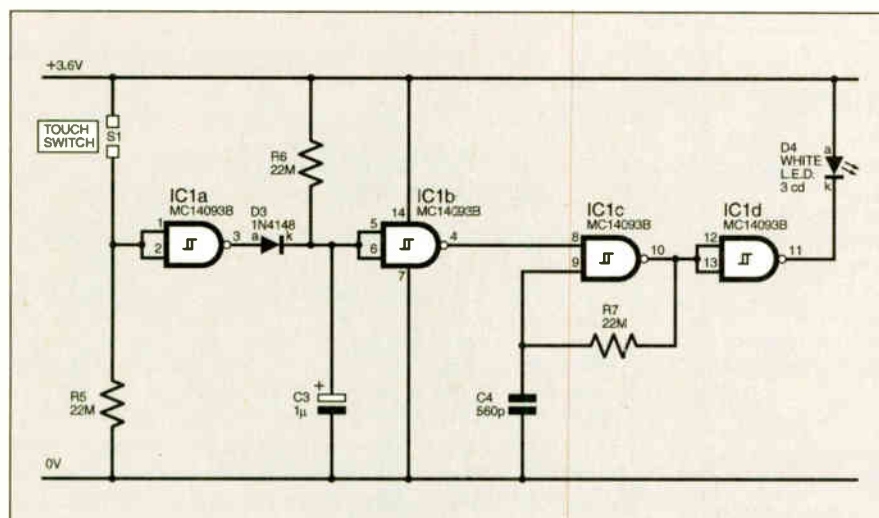

Fig.3. Circuit diagram for the Touch-Switch Door-Light. Note the component references follow on from the power supply published in the July '01 issue.
**T**HE CIRCUIT diagram for the Touch-Switch Door-Light shown in Fig.3 has several possible applications – among them being to light an entrance upon entering, to illuminate a switchboard during a power failure, or to help you find a keyhole on approaching a door at night.